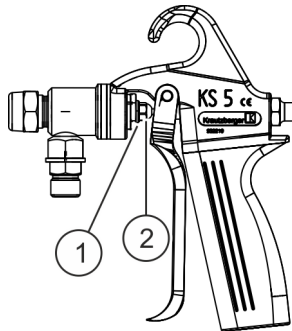

Fig. 30: Tighten seal screw
9. ➤ Only then should you tighten the seal screw (Fig. 30/2) until there is noticeable resistance and counter by tightening the hexagon nut (Fig. 30/1).